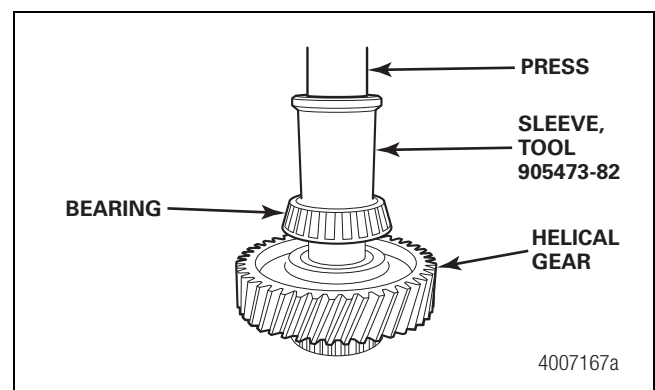

Figure 6.13
4. Use a press and sleeve to press the bearing DOWNWARD onto the output shaft until it bottoms out against the helical gear. Refer to Section 13 for tool number 905473-82. Use a 0.002-inch shim or feeler gauge to check that the bearing is fully seated against the gear. Figure 6.13.